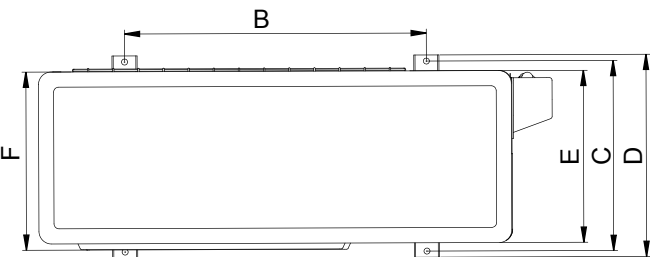
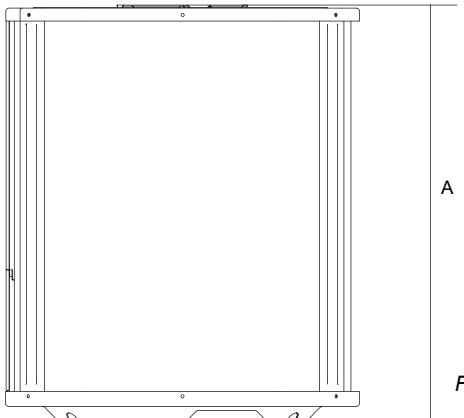

Fig.6-4
Fig.6-5
- The minimum distance between the outdoor unit and obstacles described in the installation chart does not mean that the same is applicable to the situation of an airtight room. Leave open two of the three directions. (Refer to Fig.6-4, Fig.6-5)